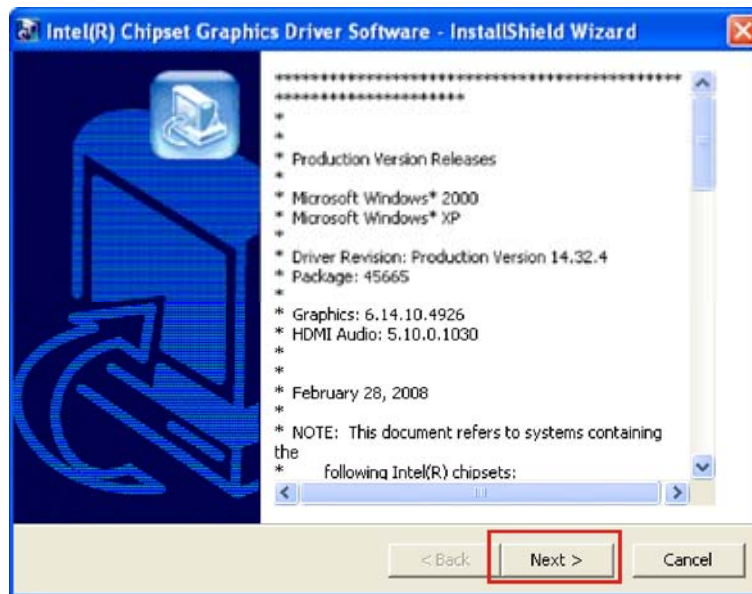

Figure 7-9: VGA Driver Read Me File
Step 22: The VGA Read Me file in **Figure 7-9** appears.